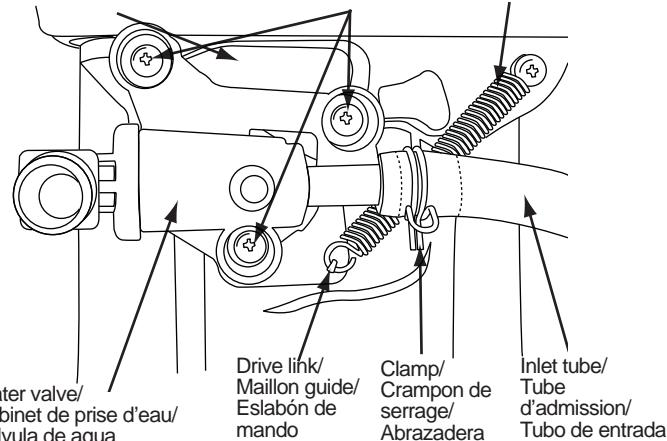

FIGURE 1/SCHÉMA 1/FIGURA 1
- Refer to Figure 1 for component locations. Style Lite shown.